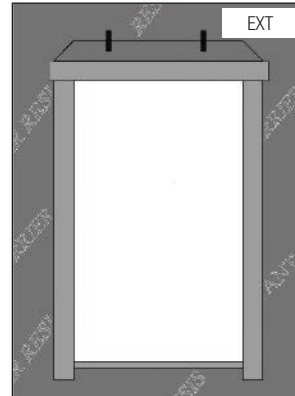

FIG. 9
- G) Cut and apply flashing to both sides and the top of the rough opening. Overlap the top flashing over the side flashing. The flashing should run at least 6" past each side of the rough opening. (Fig. 9)